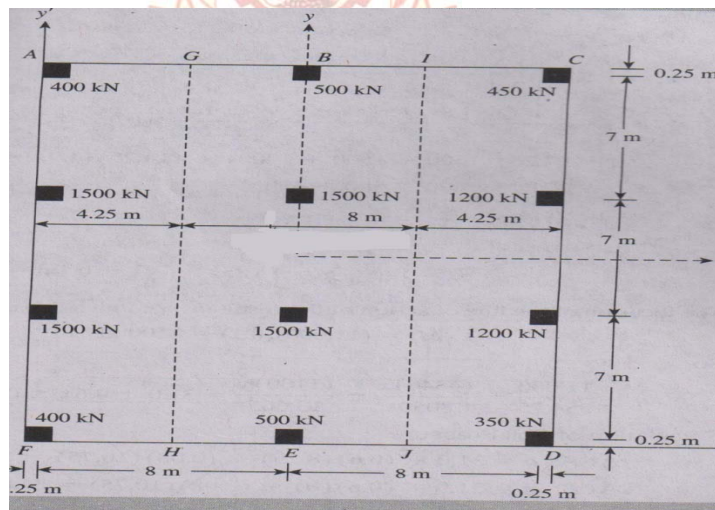

Figure 1: Raft Foundation
1. Calculate the soil pressures at points A, B, C, D, E, and F of a raft foundation with column loads shown in Figure 1. The size of the raft is 16.5m x 21.5m. All columns are 0.5m x 0.5m in section. Given that the net allowable bearing capacity of the soil is 60 kN/m^2 . Check whether the soil pressures are less than the net allowable bearing capacity of the soil.